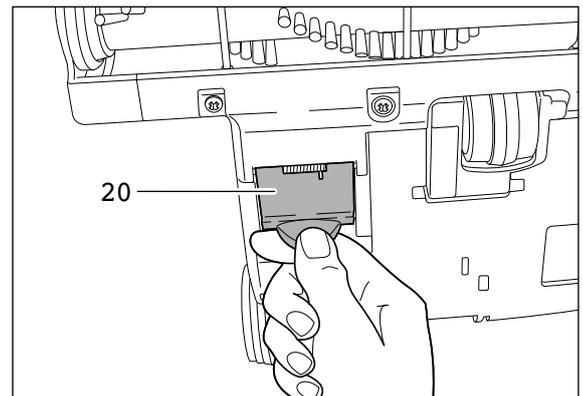

Figure 9
Clogs in the Airflow Pathway - Figure 9
Check the swivel neck regularly for blockages. Do not open the machine. To check for a clog in the swivel neck (3), remove the telescopic tube by pressing the release button (9). Pull the tube out of the swivel neck. Push the obstruction down the neck with a stick or long screwdriver and remove it through the orange access door (#20, figure 9).